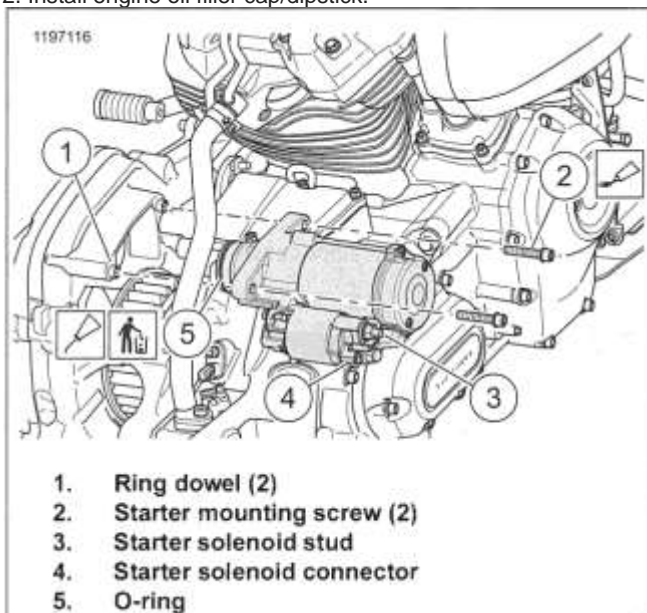

Figure 8-5. Starter
2. See Figure 8-5. Remove starter.
- a. Remove battery positive cable from starter solenoid stud (3).
- b. Disconnect stater solenoid connector (4).
- c. Remove starter mounting screws (2).
1. See Figure 8-5. Install starter.
- a. Apply a light coat of grease on new O-Ring (5).